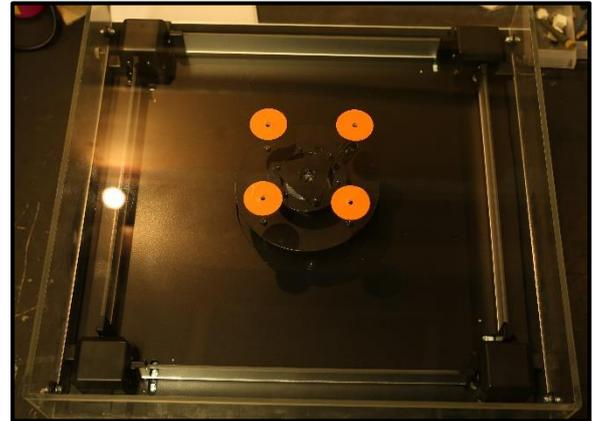

FIGURE 21 : SET UP PLATE ACCESSORY
1. Following the procedure in page 16 (removing the square Plexiglas shape) to replace the usual Square Plexiglas shape by the Set Up Plate Accessory (Figure 21) and screw it on the fixture.